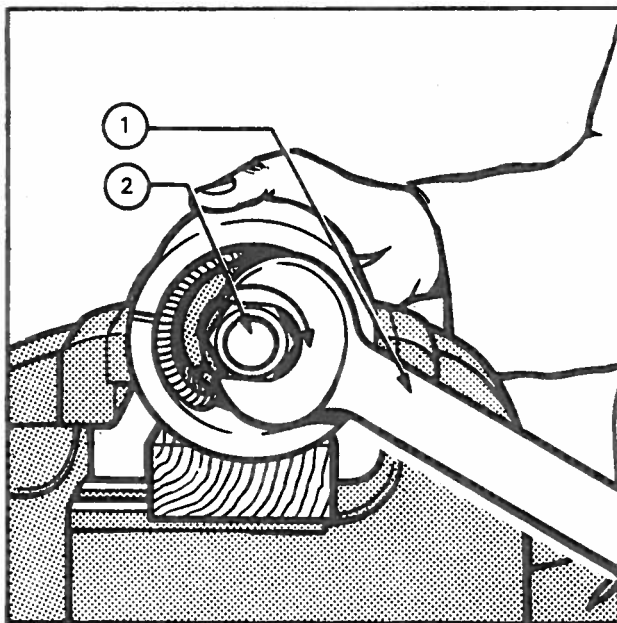

Fig. 6—Removing the Generator Field Coils
4. Locate the pole piece expander Tool No. CP.9509 inside the yoke and securely tighten the end nut—see Fig. 6.